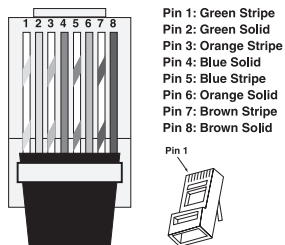

Figure 2: RJ-45 Connector
3. Untwist the wire pairs and spread them flat. Arrange them as shown in Figure 2.
2. Install RJ-45 connectors on both ends of the Cat5 cable as explained in Figure 2: Cat5 / RJ-45 connector. The Cat5/RJ-45 cable pin assignment is: